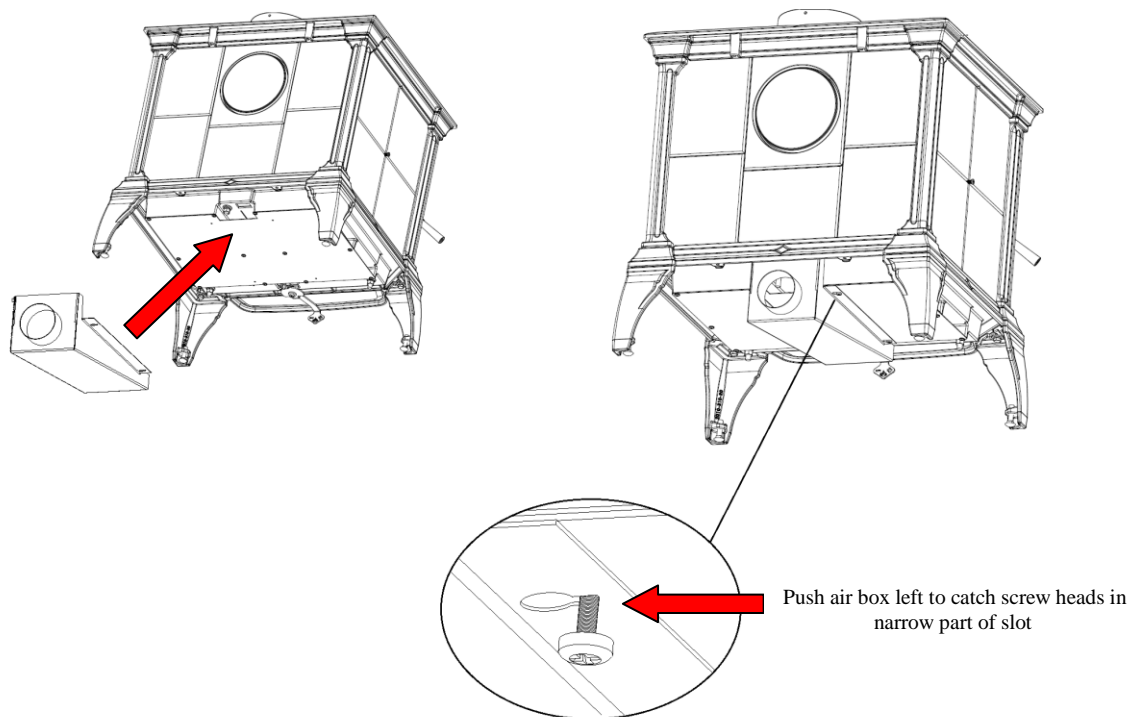

Figure 2 – Mounting Outside Air Box
1. Locate the four holes in the bottom of the heatshield (Refer to figure 2).
3. Orientate the outside air box to match the position shown in figure 2.
4. Push the outside air box up to the bottom heatshield making sure the Phillips head screws protrude through the large diameter opening in the outside air box. When the box is tight against the bottom heatshield push it toward the left of the unit (viewed from the back), sliding the Phillips screws into the smaller diameter opening (Refer to figure 2).